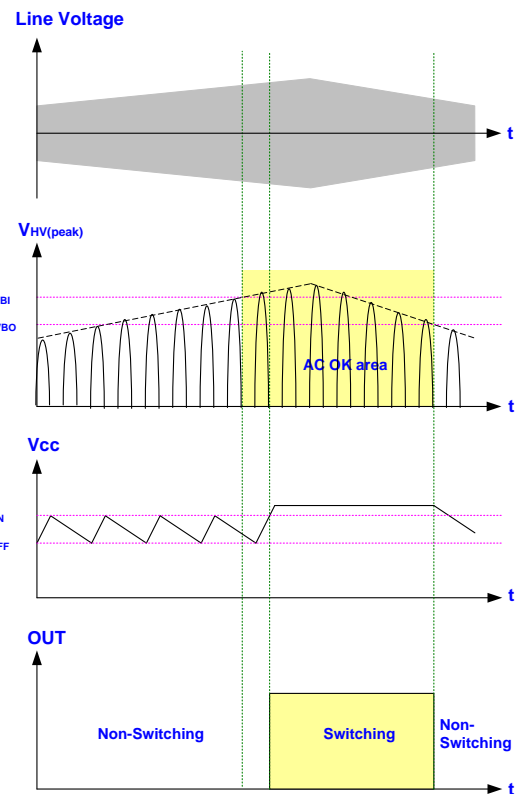

Fig. 14
The LD5760 features Burn-in/out function on HV pin. As the built-in comparator detects the half wave rectify line voltage condition, it will shut off the controller to prevent from any damage. Fig. 14 shows the operation. When  $V_{HV} < HVBO$ , the gate output will remain off even when the VCC already reaches UVLO(ON). It therefore forces the VCC hiccup between UVLO(ON) and UVLO(OFF). Unless the line voltage rises over  $HVBI$   $V_{AC}$ , the gate output will not start switching even as the next UVLO(ON) is tripped. A hysteresis is implemented to prevent the false-triggering during turn-on and turn-off.